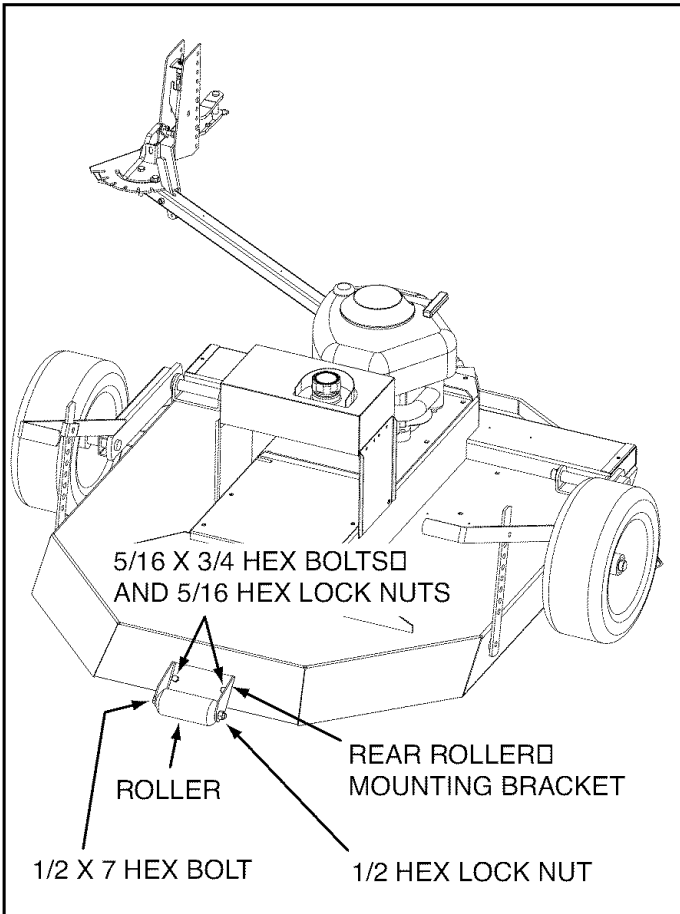

FIG. 3
- Install Rear Roller Mounting Bracket to rear of deck using two 5/16 x 3/4 Hex Bolts and two 5/16 Hex Lock Nuts. (See Fig. 3.)